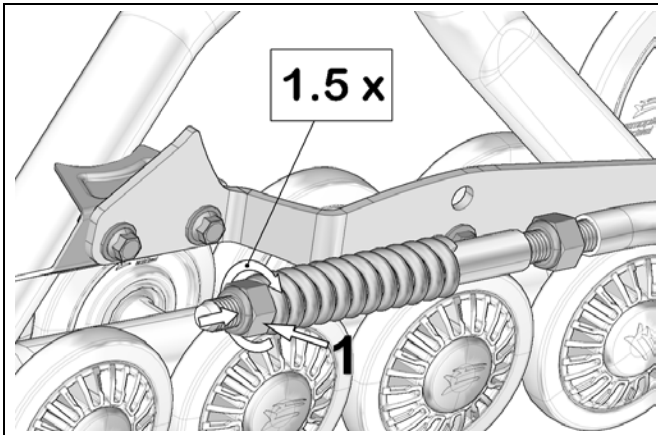

Figure 10
- Turn nut (1) until it comes in contact with the spring, then compress the spring by turning the nut 1 1/2 turns. See Figure 10.